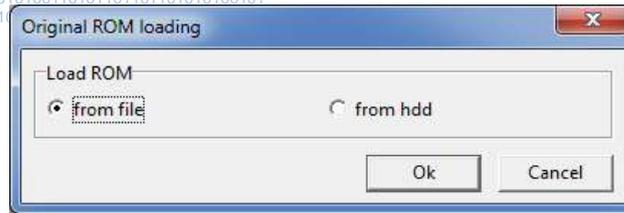

Fig.8.8.
- ◆ After you click the confirmation button the utility will display a dialog with an offer to read the ROM image from the drive or load it from a file (Fig. 8.8). For convenience, it is recommended to read ROM from the drive beforehand. Then the utility will automatically power on the drive and try to perform initialization. If the drive enters the ready state and returns its HDD ID, the head is functional. Otherwise, take a note marking it as malfunctioning.